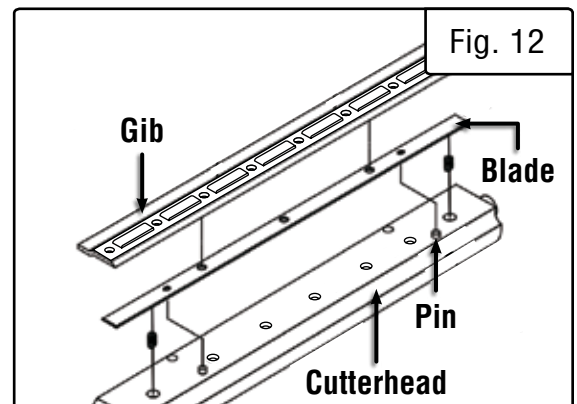

Fig. 12
6. The blade is located in position by two pins. Gently lift the old blade off the cutterhead and slide it out from under the gib. Do not make contact with the blade with your bare fingers (Fig. 12).
Brush life depends on the load of the motor. Regularly inspect brushes after 100 hours of use. Brushes are located on either side of the planer motor, on both the front and rear side of the planer. Loosen brush cap (Fig. 12 - 1) and carefully remove brush from motor. Replace brushes if the spring is damaged. Replace brushes if the carbon is worn down to 3/16" long or shorter. Tighten brush caps after replacement. Both brushes should be replaced simultaneously. Replacement brushes can be purchased from wenproducts.com (part no. **PL1326-189**).